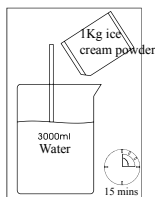

Figure 21
1. Follow the instructions of how to mix ice cream powder: pour the ice cream powder slowly in and keep stirring until all the powder is completely dissolved (see Figure 21).